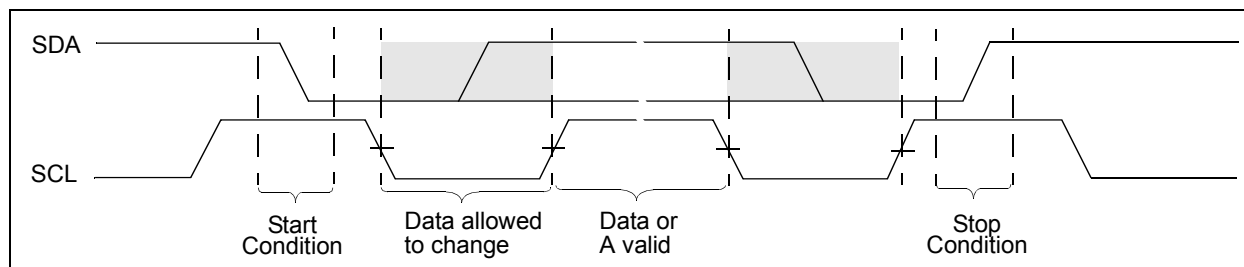

**FIGURE 6-8:** I2C Data States and Bit Sequence.
**Figure 6-8** shows the I2C transfer sequence. The serial clock is generated by the master. The following definitions are used for the bit states:
- Start bit (S)
- Acknowledge (A) bit (driven Low)
- Stop bit (P)